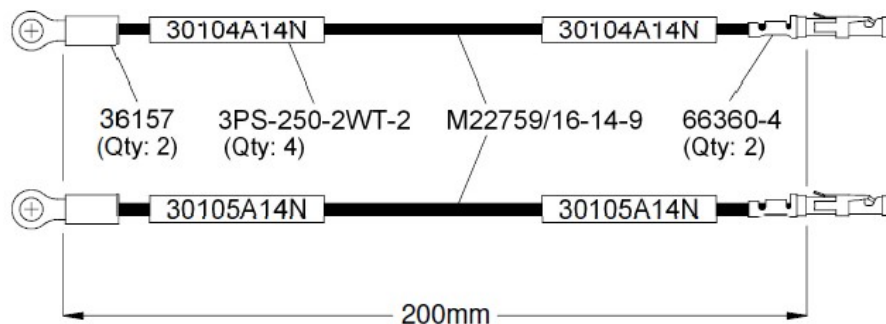

Figure 19: Preparation of Ground Wires for the Instrument Panel
- 11.2.4.1 Prepare the ground wires according to Figure 19.